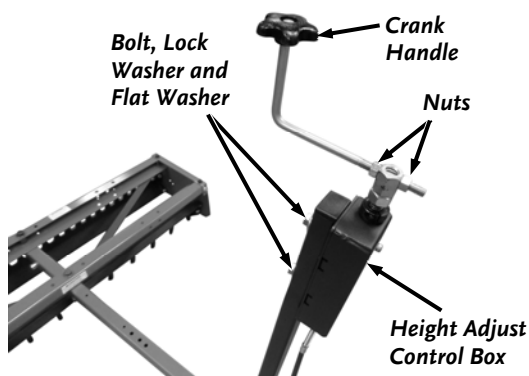

Figure 17
19. Attach the Height Adjust Control Box to the Crank Post with two 3/8-16 x 1-1/2" Bolts, Lock Washers and Flat Washers using a 9/16" Wrench (**Figure 17**).